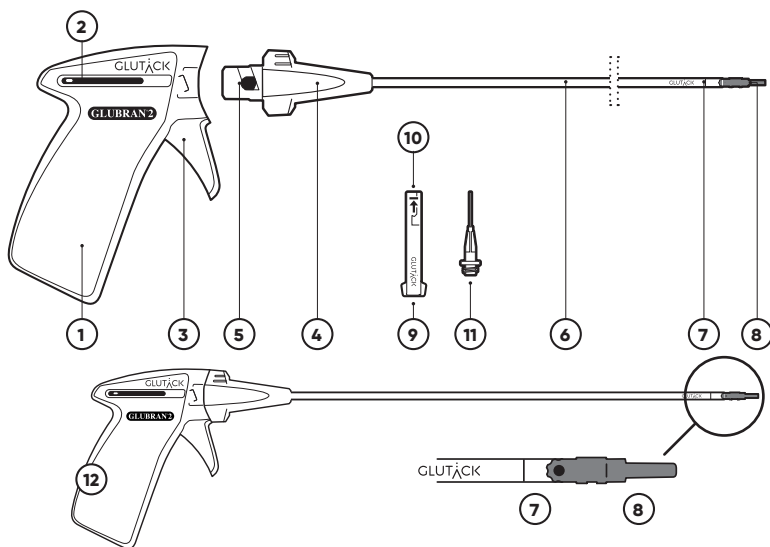

Figure 1
- **Handpiece** (Fig. 1, No. 1) with label stating the number of drops that can be dispensed; equipped with slider (Fig. 1, No.2), which displays the amount of Glubran® 2 dispensed during the procedure, and trigger (Fig. 1, No. 3) connected to the gear that forms the drop dispensing system.
- **coupling base** (Fig. 1, No.4) and chamber for housing the loading cartridge (Fig. 1, No. 5);
- **steel rod** (Fig. 1, No. 6) containing a small tube that allows Glubran® 2 to pass through;
- **articulated and swivelling end** consisting of a white plastic part, (Fig. 1, No. 7), and a green tip with a special groove for easy grasping with surgical pliers/to grasp with surgical pliers, designed to be non-adhesive and non-obstructable (Fig. 1, No. 8).
- **Loading cartridge** for Glubran® 2 in transparent plastic (Fig. 1, no. 9), pre-marked with symbols indicating the direction of introduction into the chamber and the loading level (Fig. 1, No. 10).
- **Transfer tip** to be used for loading the cartridge with Glubran® 2 (Fig. 1, No. 11).
At the end of the assembly instructions, the device consists of a cannula with a handle and trigger at the proximal end and a swivel tip at the distal end (Fig. 1, No. 12). The distal end of the device can be swivelled to allow delivery of Glubran® 2 even in anti-gravity and anatomically difficult-to-reach positions.